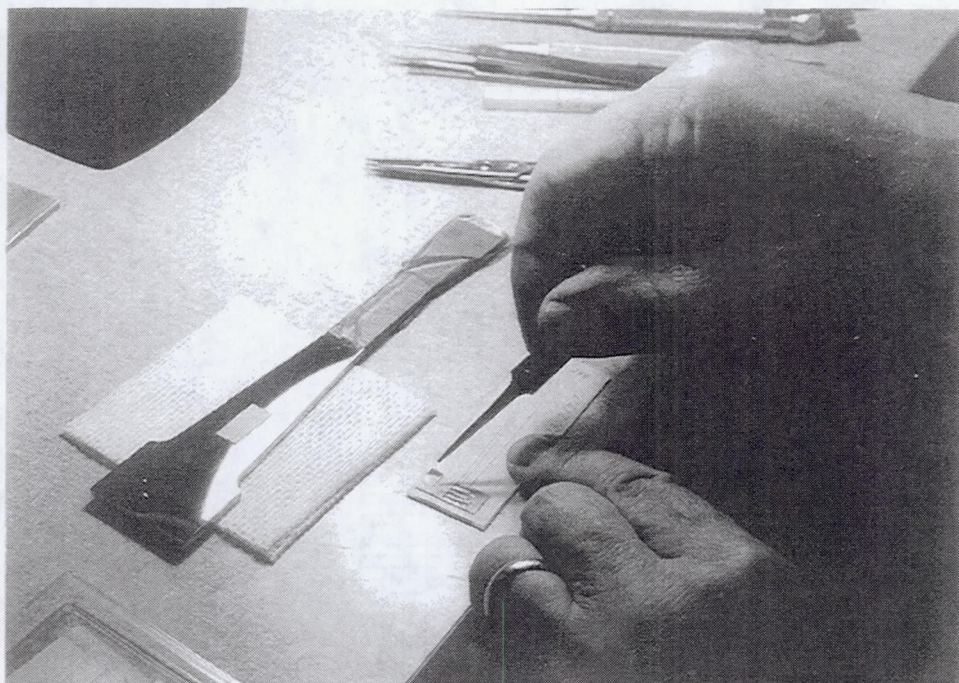

FIGURE 6. Gage is removed from slide with tweezers and positioned on test bar.
- Figure 6. Gage is removed from slide with tweezers and positioned on test bar.